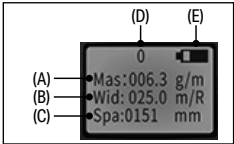

Fig. 5
- 3. Press the 'POWER' button (8) until the screen turns on.
- 4. The following data will be displayed on the screen. Fig.5